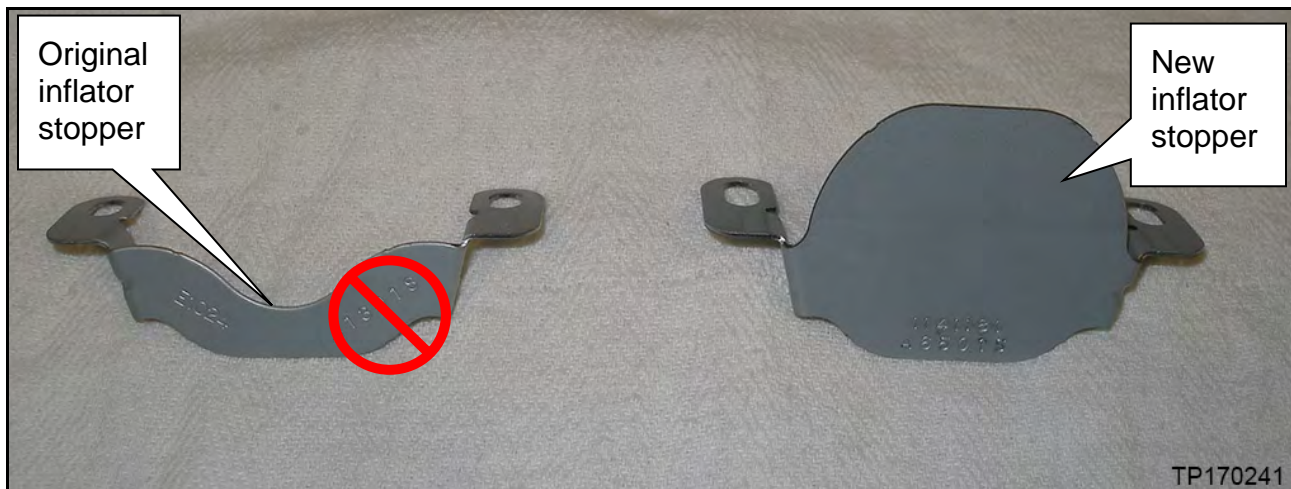

Figure 23a
**HINT:** Refer to Figure 23a to ensure the new inflator stopper is used.